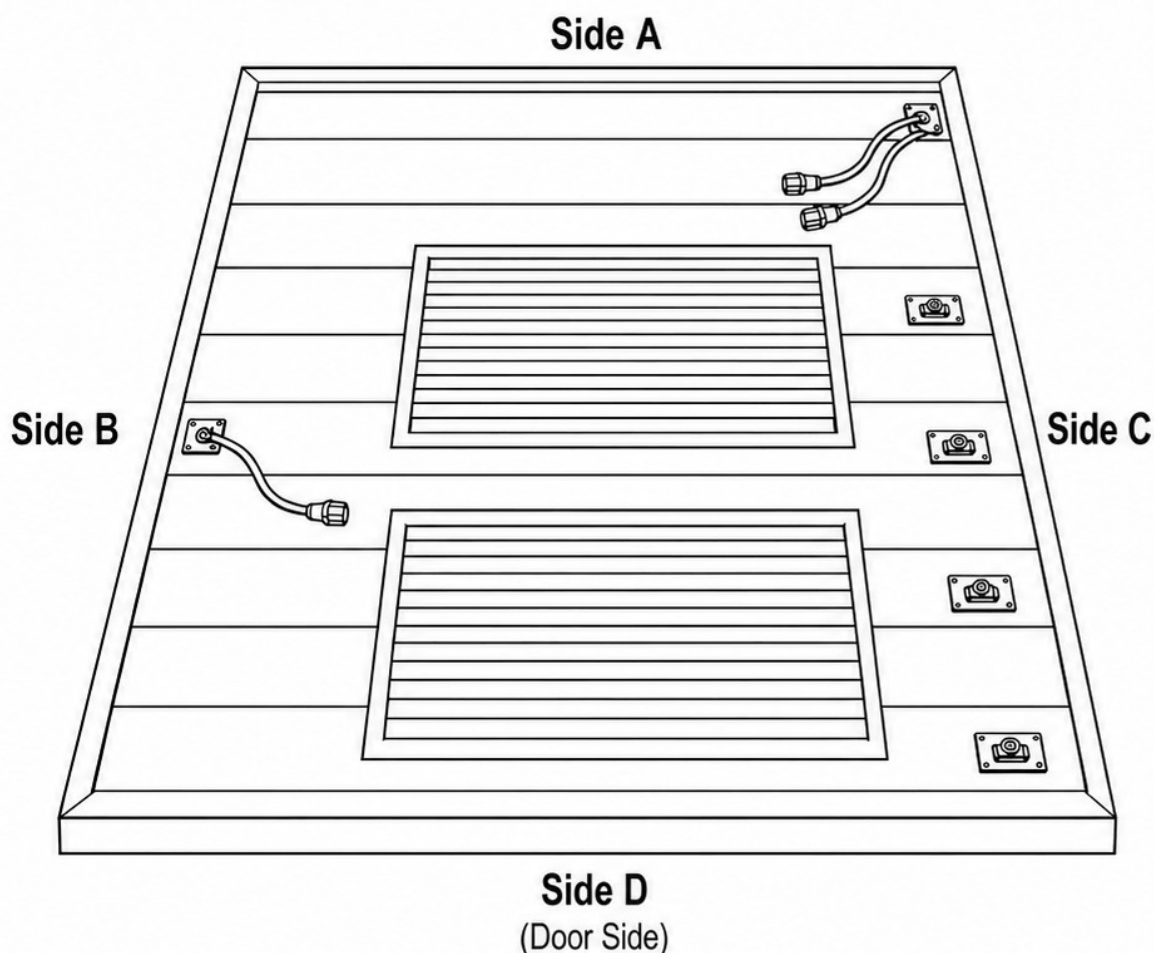

Figure 4. Floor Panel orientation: heater receptacles along side C, door side D.
- Orient the Floor Panel using the floor diagram (Figure 4): the row of heater receptacles runs along side C, where the Glass Wall will stand, and the door side D is opposite side A. Face side D toward your intended entry direction, and place side B nearest your electrical outlet.